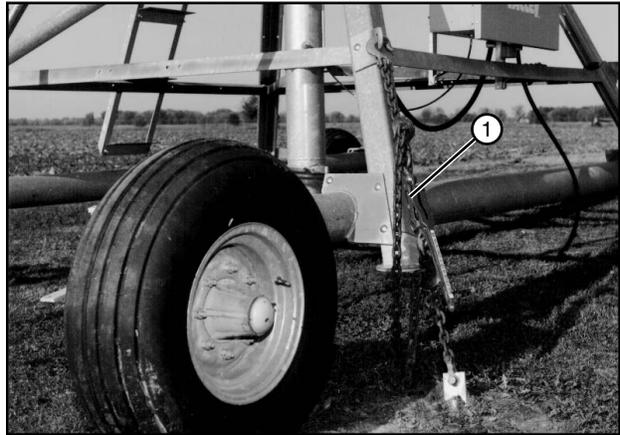

Figure 58-2 1. Load Binder
9. Remove the load binders at each corner of the pivot. See Figure 58-2.